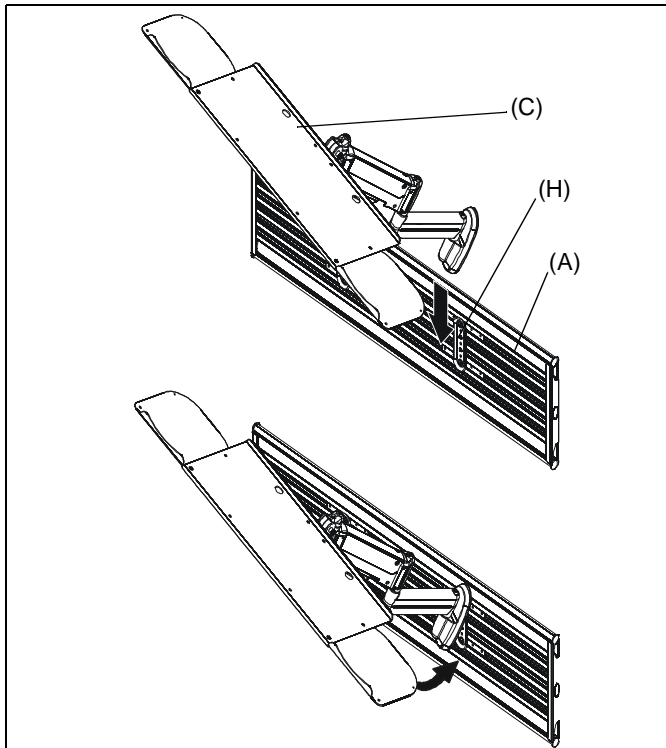

Figure 38
- Insert top of keyboard tray mount (C) over lip on top of the other wall plate (H). (See Figure 38)
- Swing keyboard tray mount (C) down flush against wall. (See Figure 38)